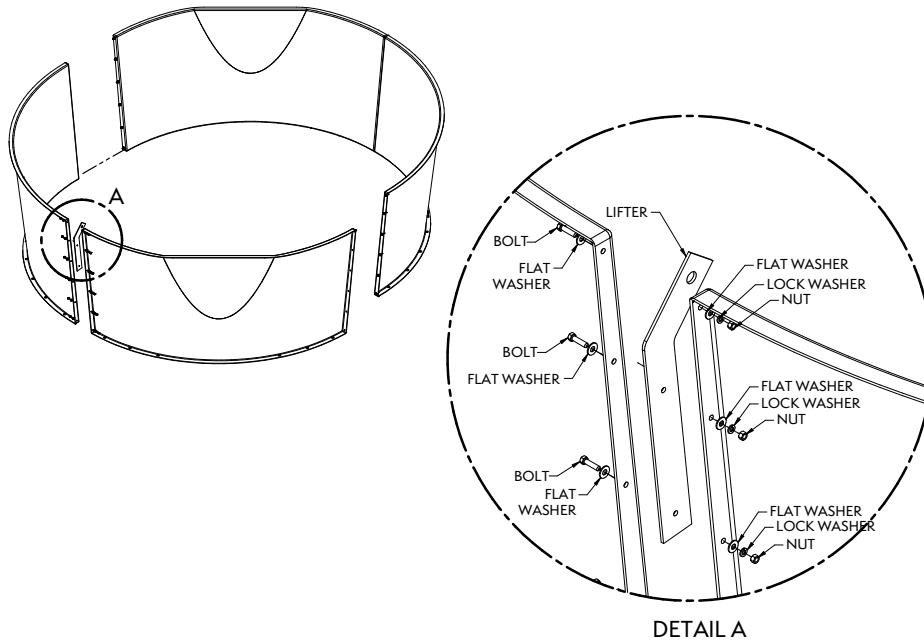

Figure 27 – Assembly of a VR Stack
Some AXS units are designed with Velocity Recovery (VR) stacks. These units are designated with a -VR suffix. The VR stack will ship disassembled in four pieces and packaged separately. Bolt all four sections together on the vertical seams as shown in **Figure 27** below. Ensure that the lifting ears are installed between each of the sections.